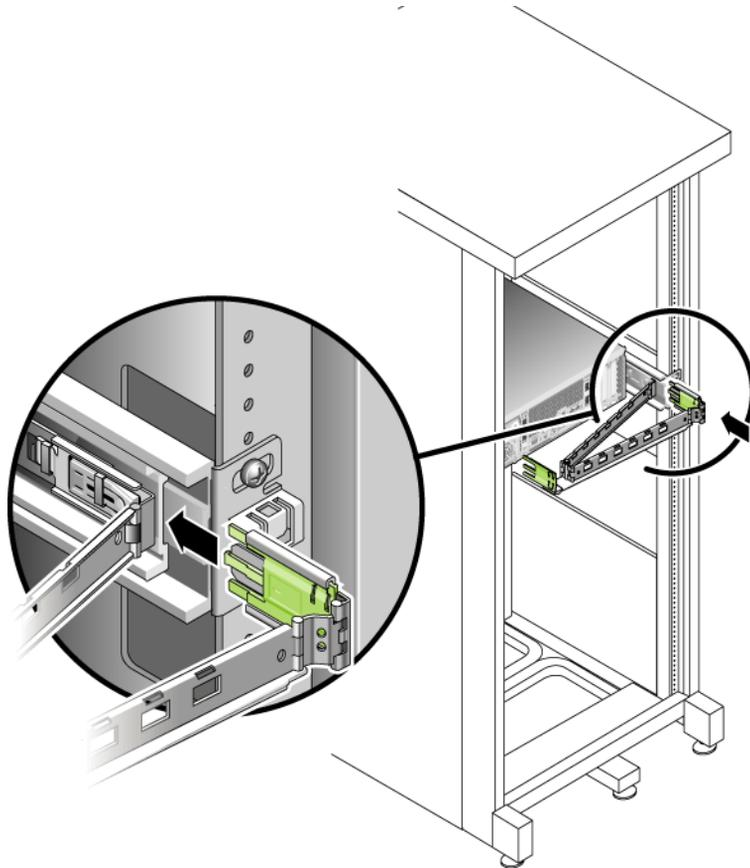

FIGURE 2-21 Attaching the Outer CMA Connector
3. Insert the larger extension into the end of the right sliding rail (FIGURE 2-21).